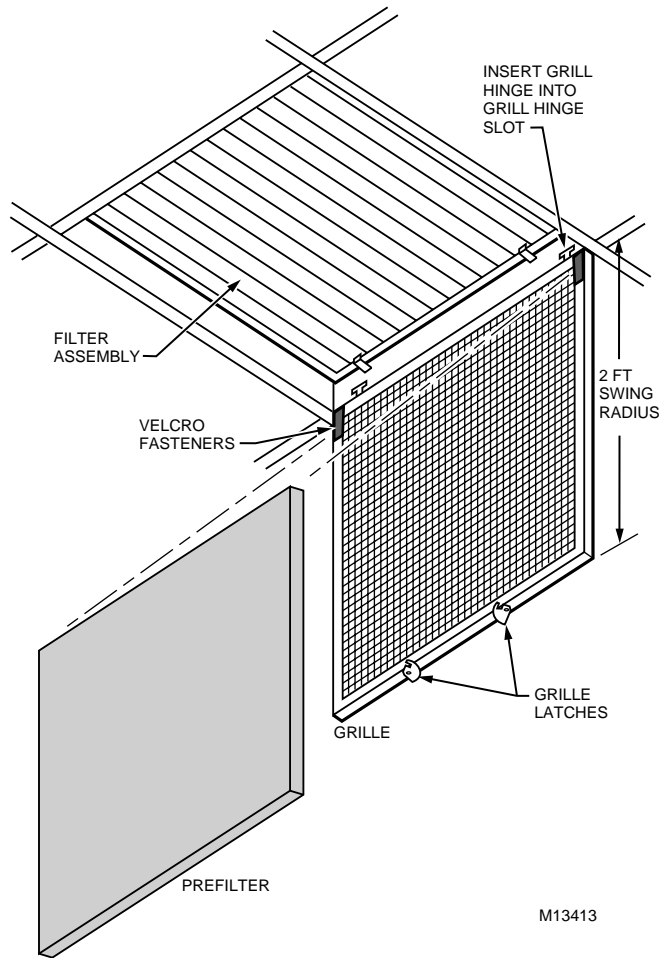

Fig. 10. Installing grille and prefilter.
1. Install the grille by inserting the grille hinge hooks into the opening in the return module. Be sure the grille hangs freely from the cabinet. See Fig. 10.
2. Install the prefilter by pressing the filter onto the velcro fasteners at the top of the hanging grille. See Fig. 10.